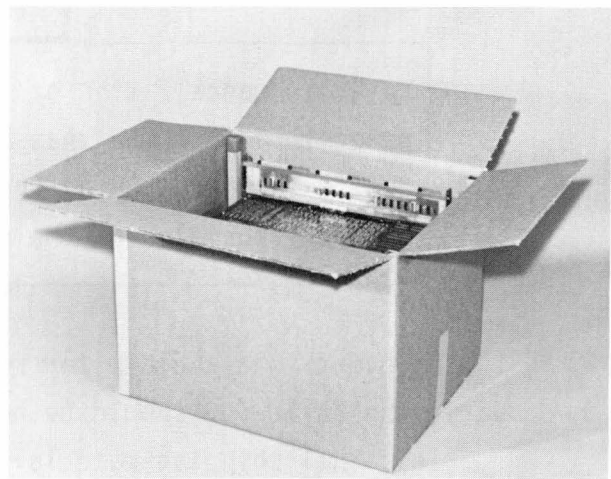

FIGURE 2-4
7. Open inner box and fold back the flaps as shown in Figure 2-4.